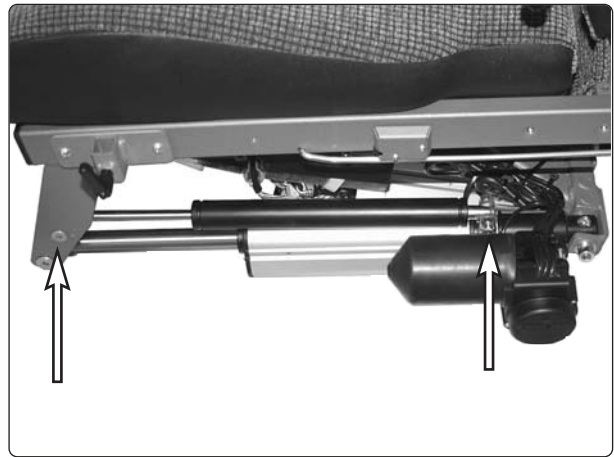

Fig. 83. Lower and upper end position switches.
2. Remove the collapse protection attenuator by loosening its two retaining screws, see Fig. 83.